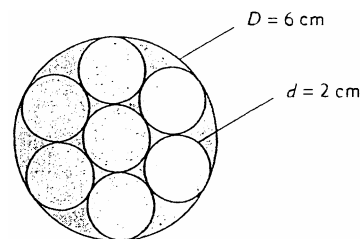

Fig. P6.94
6.94 As shown in Fig. P6.94, a multiduct cross section consists of seven 2-cm-diameter smooth thin tubes packed tightly in a hexagonal “bundle” within a single 6-cm-diameter tube. Air, at about 20°C and 1 atm, flows through this system at 150 m³/h. Estimate the pressure drop per meter.